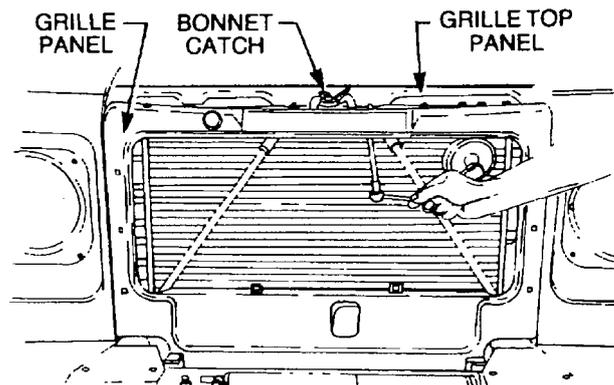

Figure 2 Grille Panel
- g. Remove the bolts and washers securing the top of the cross-braces to the grille top panel (Figure 2).